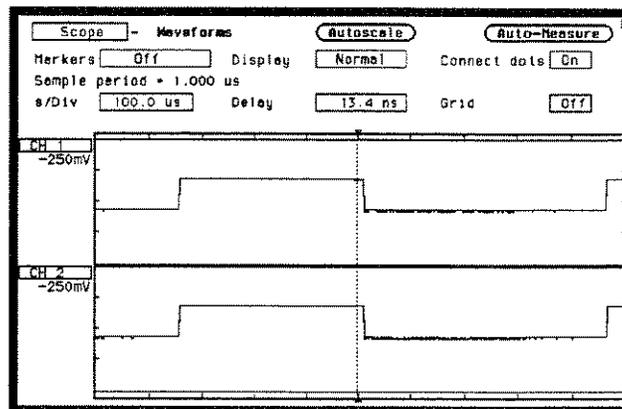

Figure 25-7. One Full Cycle Waveform
1. From the Waveform menu, select s/Div and change s/Div field to 100 μ s to display only one full cycle of the waveform. See figure 25-7.
3. Be sure the displayed waveform is at least one full cycle. If not, touch TRIG key, then select s/Div. Change s/Div field to $100 \mu\text{s}$ to display only one full cycle of the waveform. See figure 25-7.